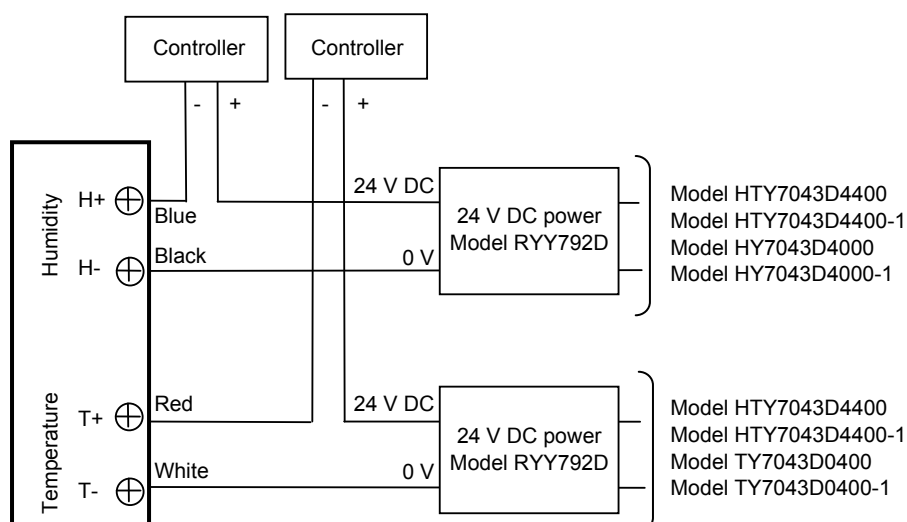

Figure 15. Wire connection: Neosensor (two-wire sensor, 24 V DC power)
- 3) Connect the lead wires of the Neosensor to the external wires (from the load). (See Fig. 15.)
- 4) Connect the lead wires of the Neosensor to the external wires (from the load). (See Fig. 15.)